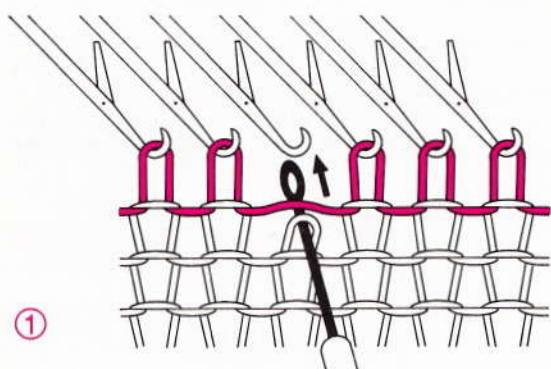

Fig. 212
- Place the 1-stitch transfer tool into the slipped stitch (fig. 212).